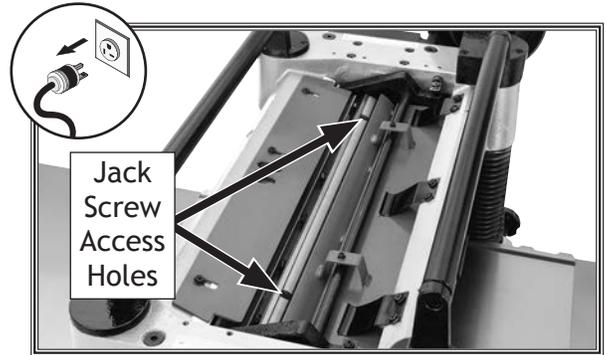
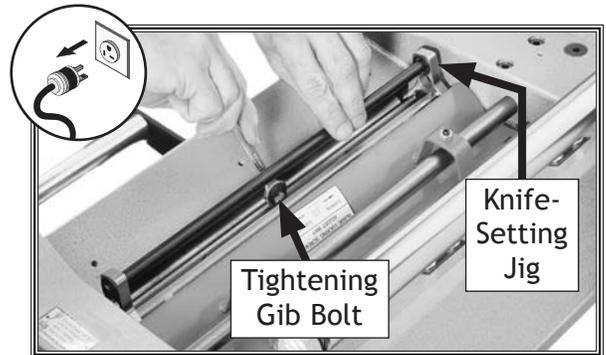

Figure 24. Jack screw access holes in cutterhead.
Figure 25. Using knife-setting jig to set knife height.
- Jack Screws:** Insert hex wrench into access holes in cutterhead (see **Figure 24**), and rotate jack screws to raise or lower knife until it barely touches center pad of knife-setting jig with all legs of jig still firmly on cutterhead, then snug gib bolts enough to hold knife in place without fully tightening gib bolts (see **Figure 25**).
Springs: Insert hex wrench into access holes in cutterhead (see **Figure 24**), and remove jack screws. Push down on knife jig until all legs of jig are firmly on cutterhead and knife just touches center pad of jig, then tighten gib bolts enough to hold knife in place without fully tightening gib bolts (see **Figure 25**).